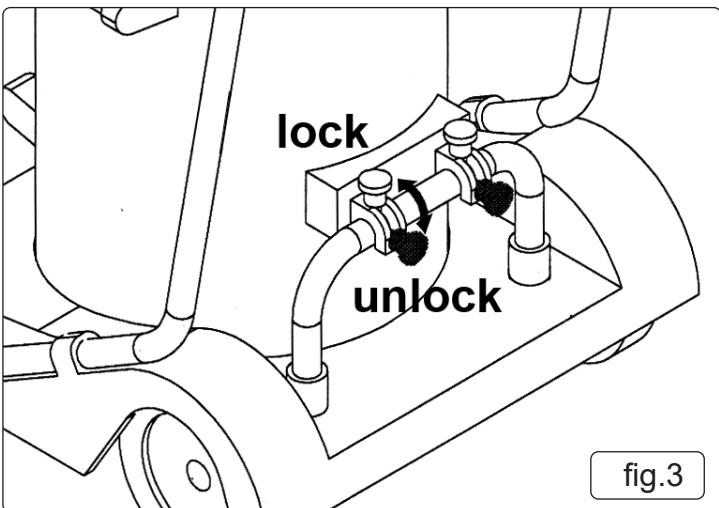

fig.3
- 4.3.4. The tank must only be tipped for emptying in the locked position. See fig.3.
- 6.2.1. Position the cleaner next to a suitable container or drain. Lock tank onto frame as shown in fig.3. Put the rear wheel locks on. Hold the frame handle with one hand and lift the tank to the emptying position using the tank handle. Refer to Fig.12.